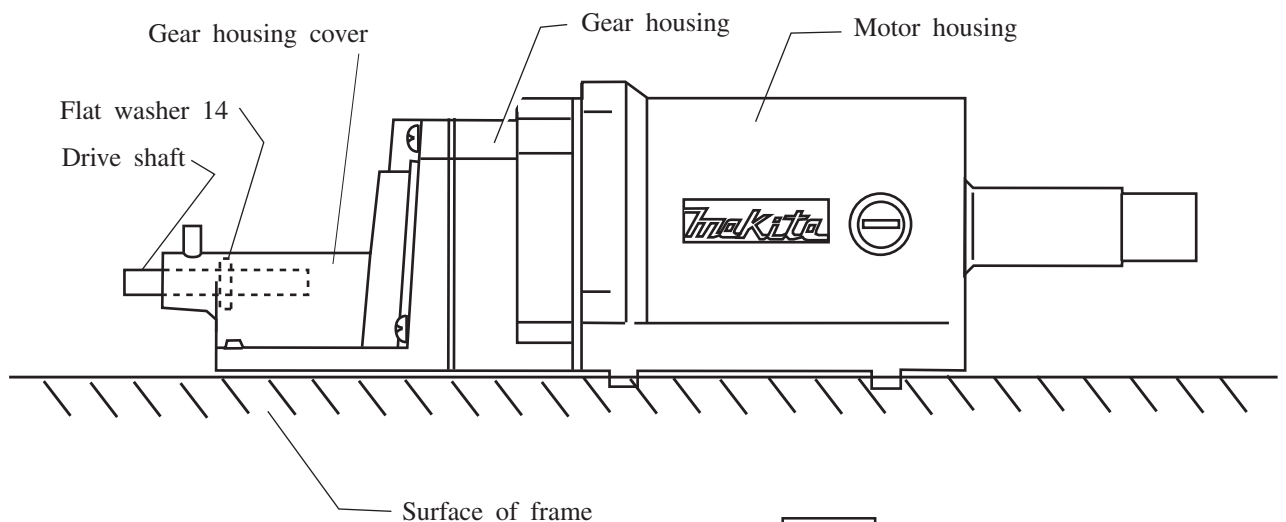

Fig.4
- (6) Motor unit (consisting of motor housing, gear housing, and gear housing cover) have to be mounted so that its bottom surface is parallel to the surface of main frame.
- (7) Do not forget to mount flat washer 14 to inner part of gear housing cover, for accepting drive shaft. (See Fig.4)